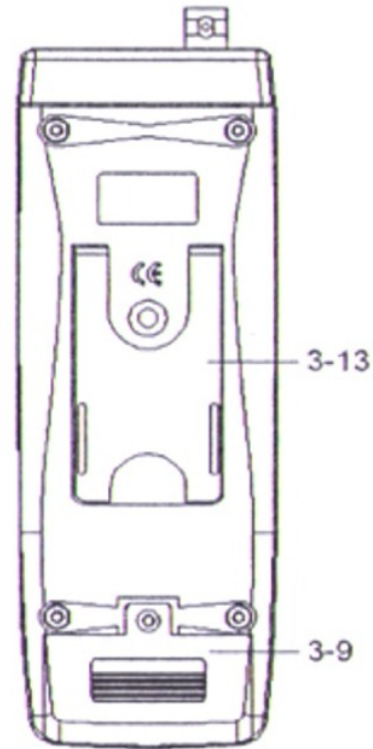

Fig. 3
- 6) * For measuring the PH7 standard solution, adjust the PH 7 VR (3-14, Fig. 3) until the display value within PH6 to PH8.
- * For measuring the PH4 standard solution, adjust the PH 4 VR (3-15, Fig. 3) until the display value within PH3 to PH5.
- * For measuring the PH10 standard solution, adjust the PH 10 VR (3-15, Fig. 3) until the display value within PH9 to PH11.